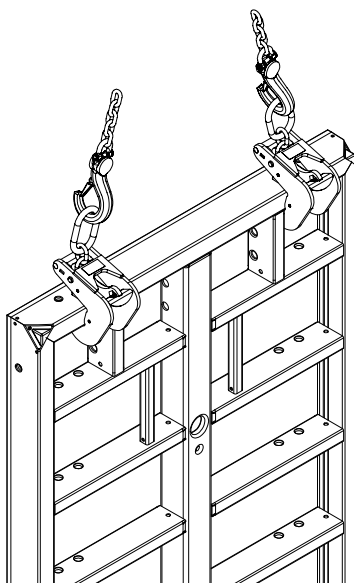

Fig. 6
- Check the fastening attachment for the Lifting Hook on the panel. (Fig. 6)